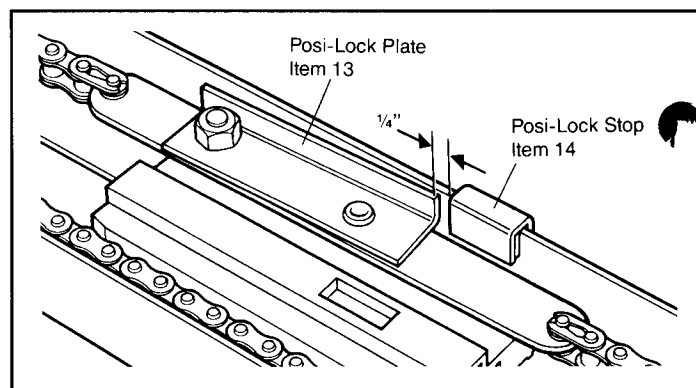

Figure 29
affixed to the channel. When force is exerted to open a closed door, the trolley will apply pressure to the Posi-Lock PLATE (item P) causing it to engage the STOP (item S) which will prevent any further movement of the trolley and drive system. (see Figure 29).
Step 71: Clamp the Posi-Lock STOP to the channel rail at a point exactly 1/4" from the Posi-Lock PLATE, screws to the outside (see Figure 29).